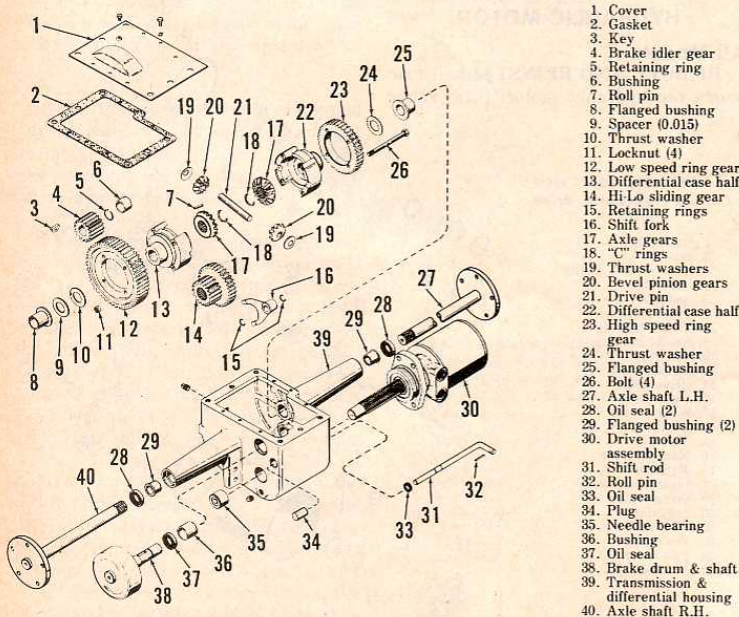

Fig. C14—Exploded view of range transmission and differential assembly.
To disassemble the range transmission and differential assembly, drain lubricant, then remove top cover and rear wheels. Place a large drive punch against inside end of brake shaft (38—Fig. C14) and hit drift sharply with a hammer. This will dislodge retaining ring (5) from its groove in brake shaft. Remove retaining ring and brake idler gear (4) as brake shaft is withdrawn. Unbolt hydraulic drive motor (30), hold sliding gear (14) and remove drive motor and sliding gear. Unseat retaining rings (15), withdraw shift rod (31) and remove shift fork (16). Remove "C" rings (18) from inner end of axle shafts (27 and 40), withdraw axle shafts and lift out the differential assembly with spacer (9) and thrust washers (10 and 24). Remove locknuts (11) and bolts (26), then remove low speed ring gear (12) and high speed ring gear (23). Separate differential case halves (13 and 22) and remove drive pin (21) with roll pin (7), thrust washers (19), pinion gears (20) and axle gears (17). Remove oil seals (28, 33 and 37). Remove plug (34) and needle bearing (35). If necessary, remove brake shaft bushings (6 and 36) and axle shaft flanged bushings (8, 25 and 29). New bushings must be reamed after installation.